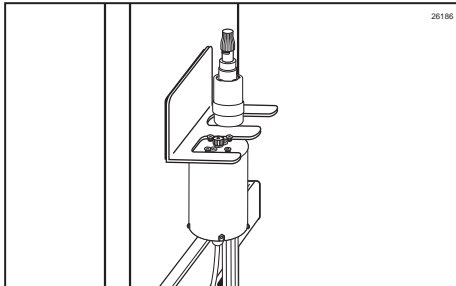

Figure 151
7. The Drive Motor hangs upside down in the larger slot, so that the heads of the mounting screws slide above the Bracket, and the rest of the Motor hangs below it. (See Figure 151.)